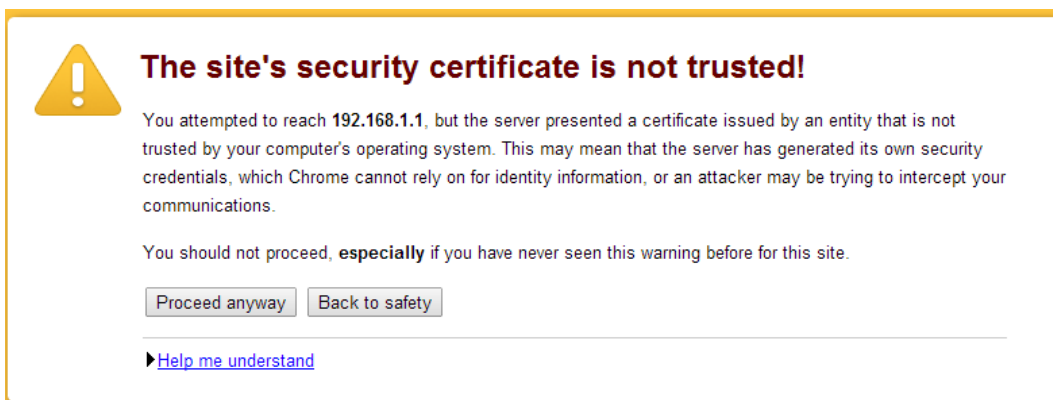

Figure 5: Accept the certificate issued by the WB45NBT
2. Open your web browser and enter the IP address `192.168.1.1` in the address bar. The WebLCM server uses a secure link running over the `https` protocol. The certificates used will not be signed by your browser, so you will see a warning similar to that shown in Figure 5 (this example shows the warning in Google Chrome):